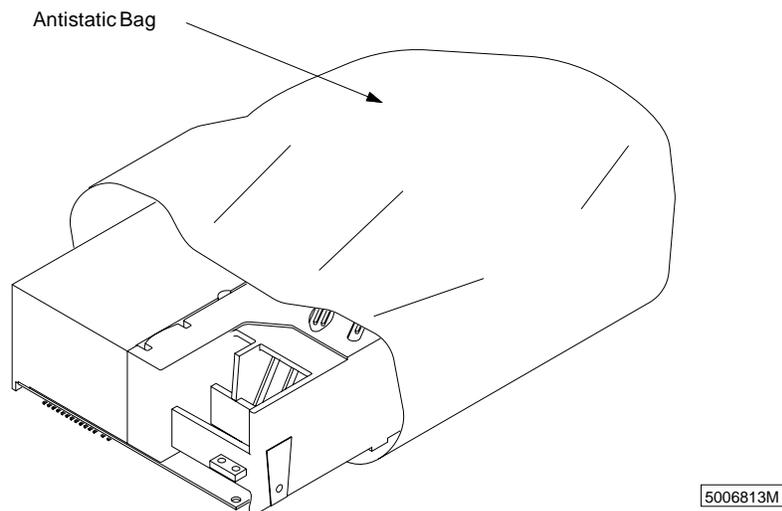

Figure 3-1. ESD-Sensitive Part in Antistatic Bag
- 1** Do not remove the ESD-sensitive part from the ESD-sensitive bag until you are ready to install it. See Figure 3-1.